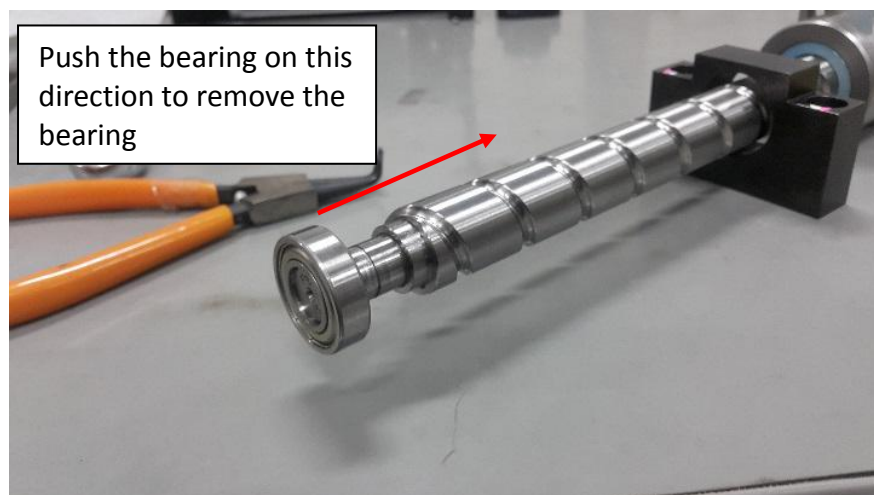

Figure 32 Bearing
26. Insert the bearing to the ball screw as shown in the Figure 32.